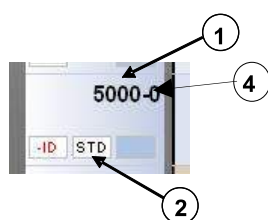

Figure 10.5. Commercial Standard on the Worksheet
- Press **Accept** to confirm the Standard (STD) programming in the **Worksheet**. The orders for analysing the Standard will be automatically updated on the **Worksheet** (Figures 10.5 and 10.6).